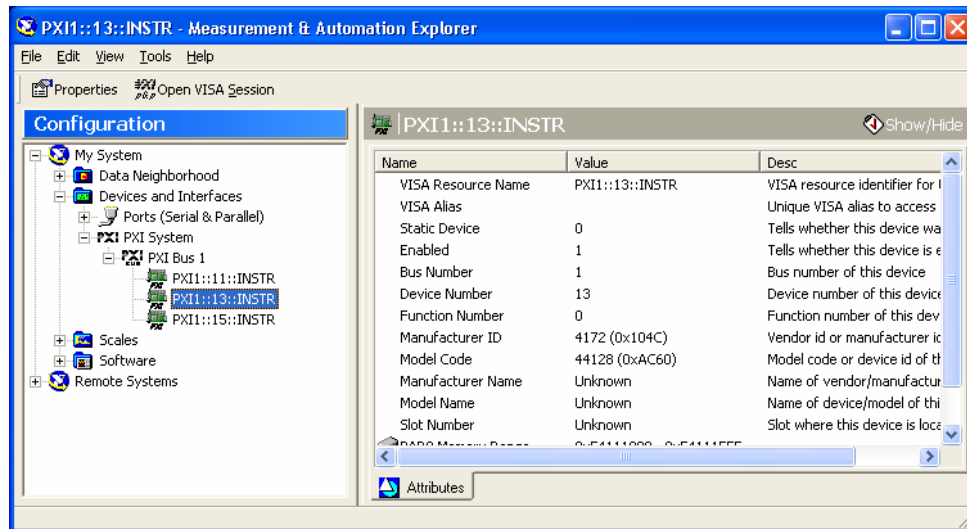

Figure 8: Measurement and Automation Explorer Verification
- c. If using NI-VISA, you can confirm the installation using NI-MAX. To do so, open NI-MAX and locate the new PXI or PCI instrument under the “Devices and Interfaces” folder. The PXI or PCI instrument should have NI-VISA resource identifier, such as “PXI2::13::INSTR” for example. As shown in Figure 8, the ZTEC instrument will have a 4172 Manufacturer ID.